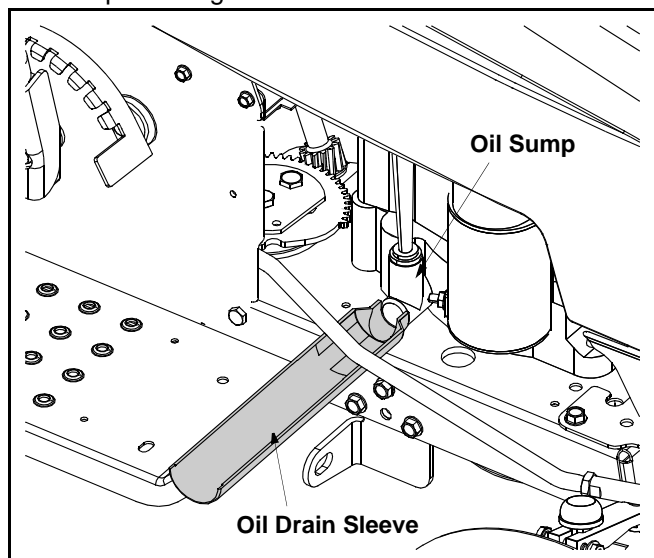

Figure 12
- Snap the small end of oil drain sleeve onto the oil sump. See Figure 12.